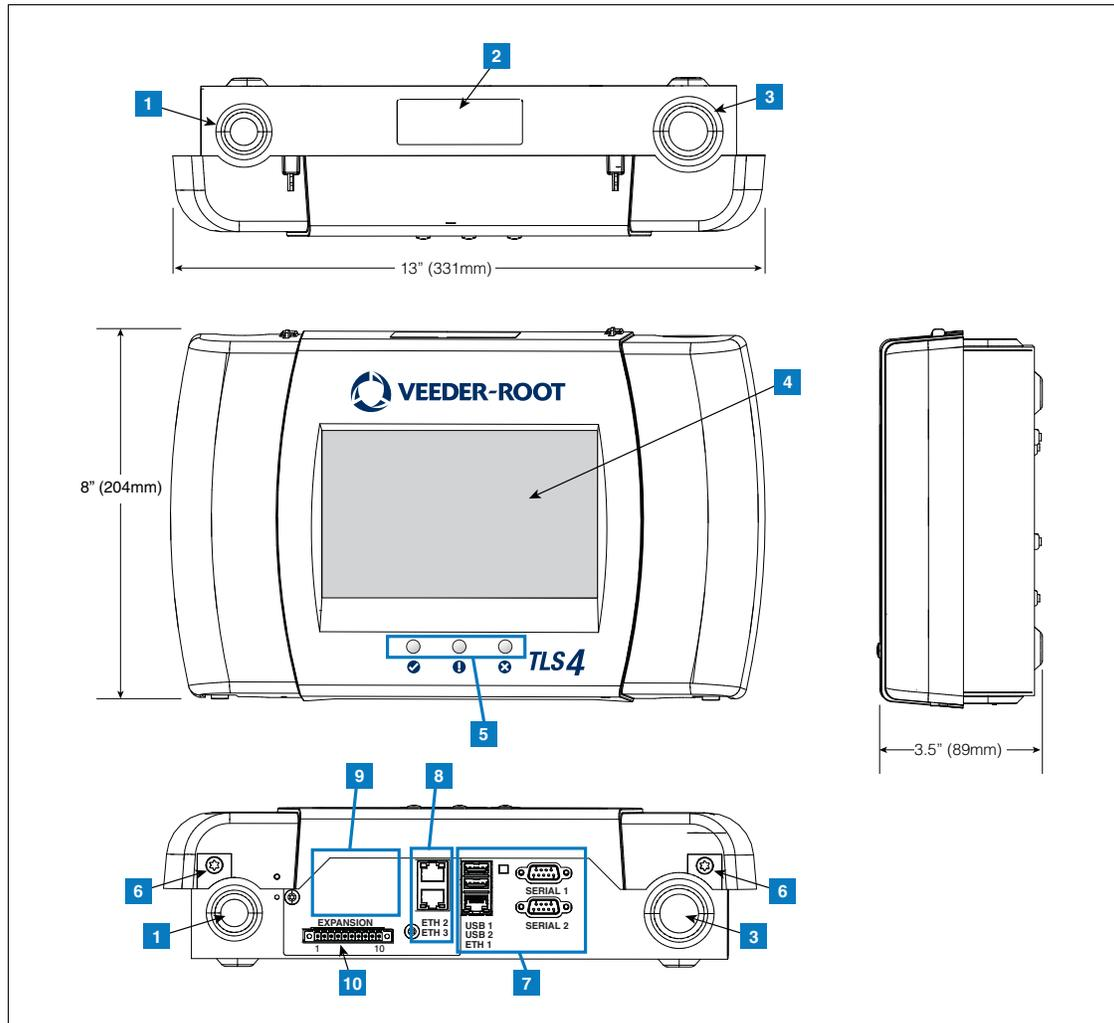
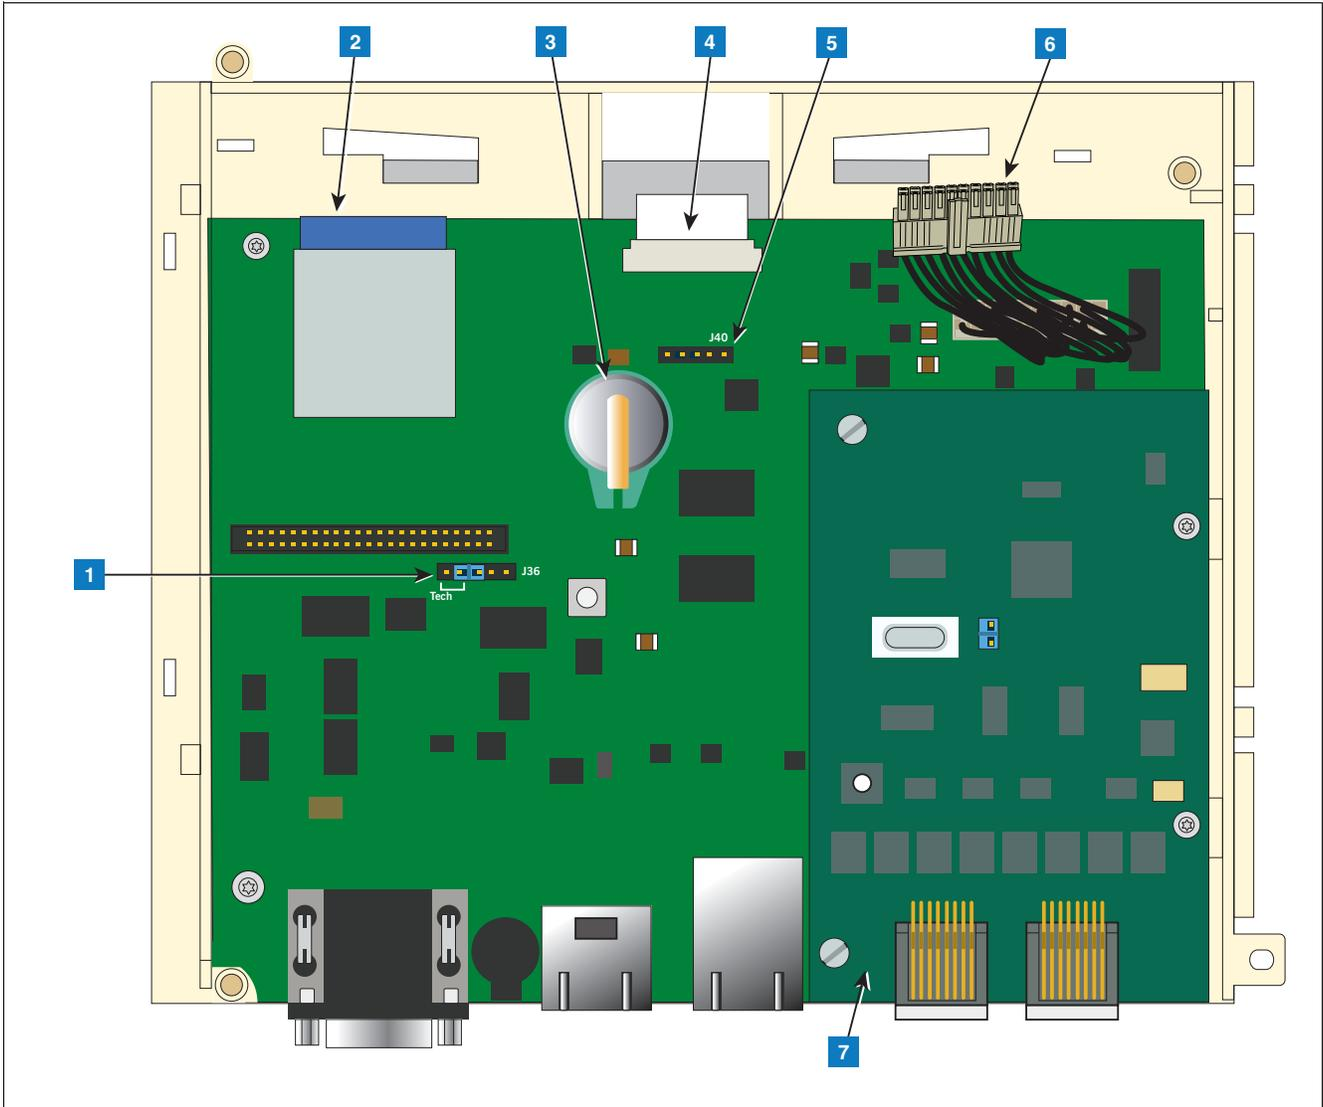

Figure 1. TLS4/8601 Series Console - Dimensions and Hardware
Figure 3. Component Locations Underside Of Display/CPU Board Ass'y.
- Figure 1. TLS4/8601 Series Console - Dimensions and Hardware 4
Figure 1 through Figure 3 show assembly and component locations referenced in the troubleshooting section of this manual.
LEGEND FOR NUMBERED BOXES IN Figure 1
LEGEND FOR NUMBERED BOXES IN Figure 3
RS-232 Ports (Item 7 in Figure 1)	2 optically isolated serial ports standard, labeled SERIAL 1 supporting full handshaking and SERIAL 2. The RS-232 D-connector is a panel mount, 9-pin female type, wired in a Data Terminal Equipment (DTE) configuration. For example, any RS-232 port in any TLS consoles is also a DTE, therefore, a Null Cable is needed in order for communication to happen between the two consoles. A Data Communication Equipment (DCE) device such as a modem may be connected directly to the interface using a straight-through cable (modem support may not be available on all ATGs). Handshake signals in the system are configurable. RS-232 signals are wired to the female D-connectors as follows:
Ethernet Ports	1 Ethernet port standard, labeled ETH 1 (Item 7 in Figure 1)
1 Optional Ethernet port (Switch ETH 2 and ETH 3) (Item 8 in Figure 1)
Factory Installed Optional Modules (One module per console)	Optional CDIM module - Two RJ-45/RJ-485 serial ports, labeled CDIM 1 and CDIM 2 (Item 9 in Figure 1)
Optional IFSF module - One IFSF port, labeled IFSF LON (Item 9 in Figure 1). The IFSF cable's plug will have to be assembled in the field. See TLS4 Troubleshooting manual (P/N 577014-058) for full instructions.
USB Ports	2 USB ports, labeled USB 1 and USB 2 (Item 7 in Figure 1)
Expansion Port	10-pin connector VR bus, labeled EXPANSION (Item 10 in Figure 1)